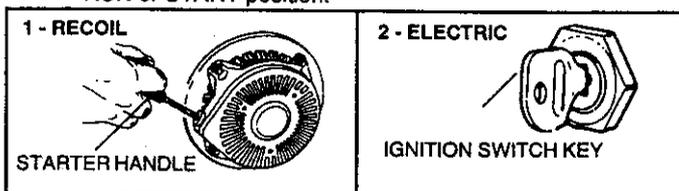

Figure 2
- C. Grasp starter handle (see Figure 2) and pull rope out, slowly, until it pulls slightly harder. Let rope rewind slowly. Then pull rope with a rapid full arm stroke. Let rope rewind SLOWLY. Do not let starter handle snap back against starter.
② ELECTRIC STARTER (see Figures 2 and 3):